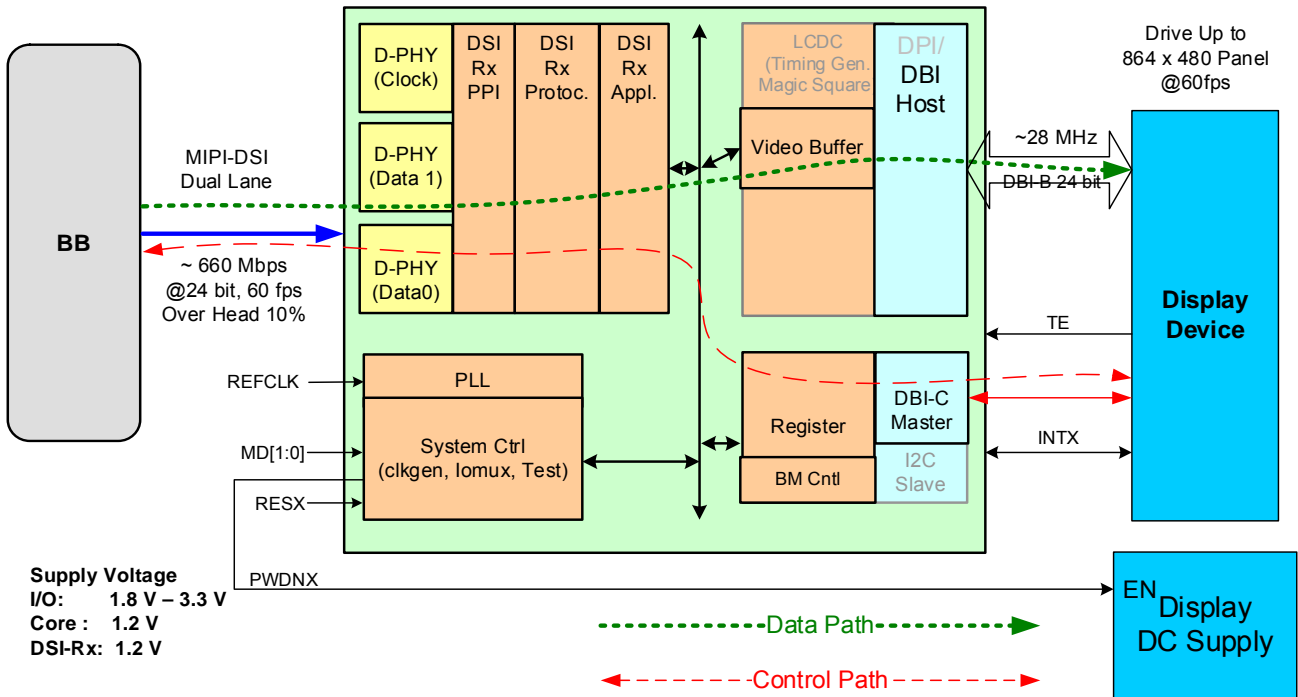

Figure 1.3 TC358762XBG in System Application – Output with DBI and DBI-C host
4. Configuration 4, Figure 1.3:
- PWDNX is an active low output signal, which is used to turn off the DC power supplier to the display system as shown in Figure 1.3. TC358762XBG asserts/de-asserts PWDNX after receiving “enter_sleep_mode/exit_sleep_mode” command from DSI host. After asserting PWDNX, DSI host is expected to signal ULPS to put TC358762XBG into sleep mode. During this period, TC358762XBG shuts down the power of all the blocks while keeping DSI Rx port running in order to be woken up by detecting ULPS to LP transition on the DSI link.